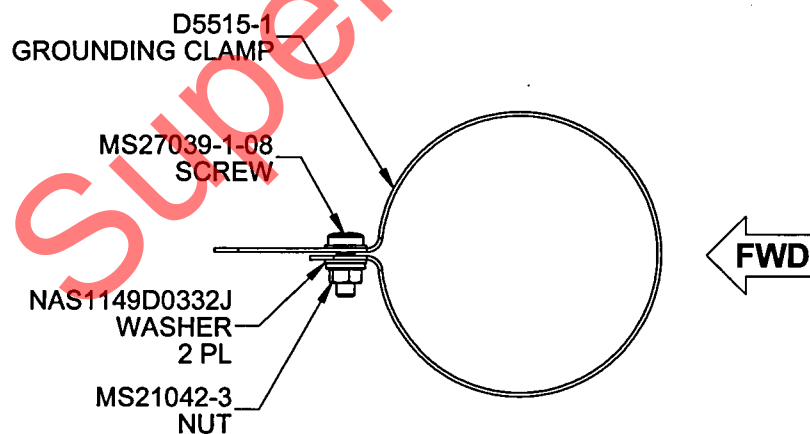

FIGURE 2
- 4) Install the D5515-1 Grounding Clamp per Figure 2 of this service instruction and orient it so that it provides clear access to attach the grounding strap and does not interfere with adjacent components. Torque the MS21042-3 Nut to 12-15 in-lb.